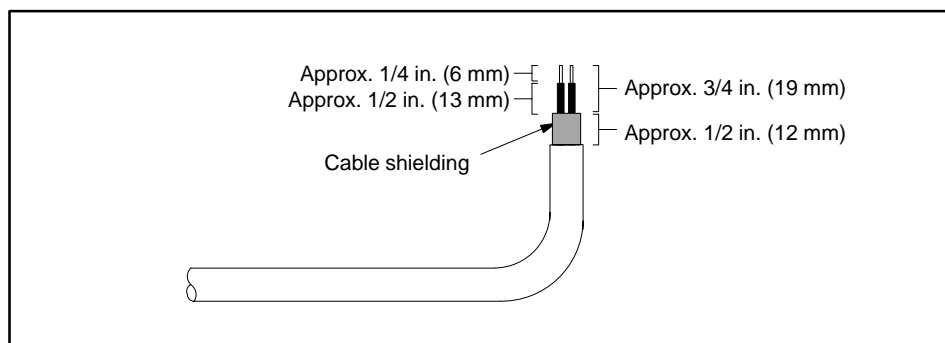

Figure 6-19 Stripping the Wires
3. Remove 1.25 inches (31 mm) of the cable sheath to expose the shielding below. See Figure 6-19.
To ensure that the connection is properly grounded, you must leave enough exposed cable shielding (0.5 inches, 13 mm) to make a proper contact with the metal cable guide on the connector. See Figure 6-19.